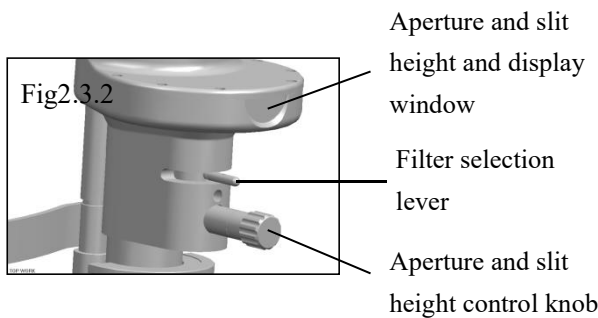
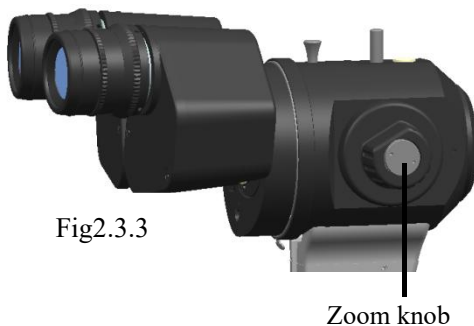
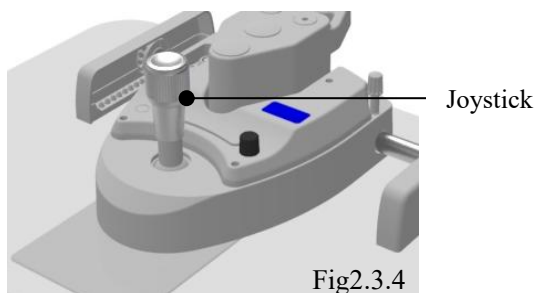

Fig2.3.2
Fig2.3.3
Fig2.3.4
4. Check whether the moving parts such as the slit and aperture width knob, the aperture adjustment knob, the filter selection lever (see Figure 2.3.2), the zoom knob (see Figure 2.3.3), and the joystick (see Figure 2.3.4) operate normally.